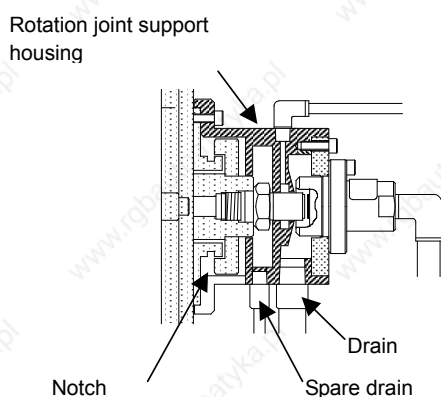

Fig. 2: Rotation joint support housing
- Check whether coolant does not always leak from the drain on the rotation joint support housing. (See Fig. 2)
- Check whether coolant does not always leak from the notch on the rotation joint support housing. (See Fig. 2)